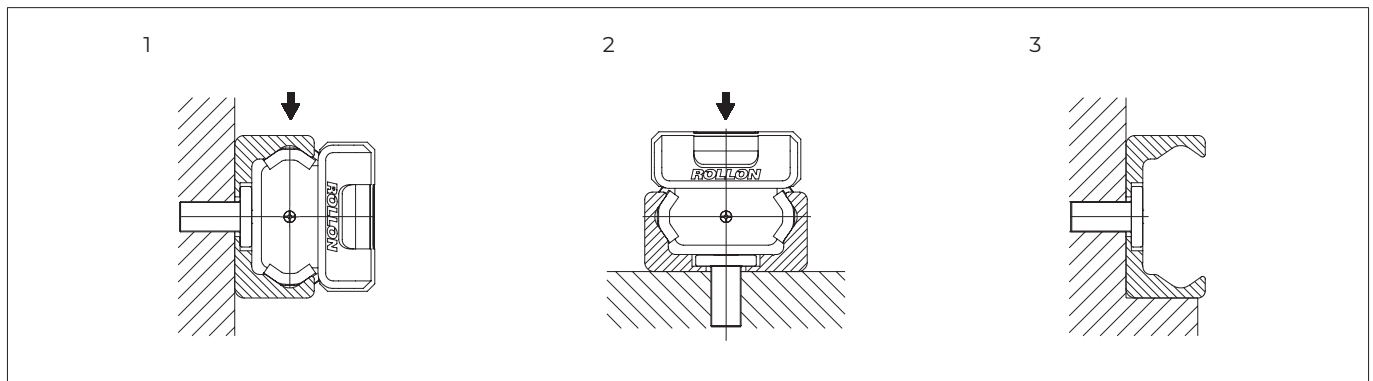

Fig.74
The T- and K-rails can be installed in two positions relative to the external force. For axial loading of the slider (Fig.74. pos. 2), the load capacity is reduced because of the decline in contact area caused by the change in position. Therefore, the rails should be installed in such a way that the load on the rollers acts in the radial direction (Fig.74. pos. 1). The number of fixing holes, used with property class 10.9 screws, is sized to meet the specified load capacity. For applications involving vibration or increased rigidity requirements, additional rail support (Fig.74. pos. 3) is recommended.